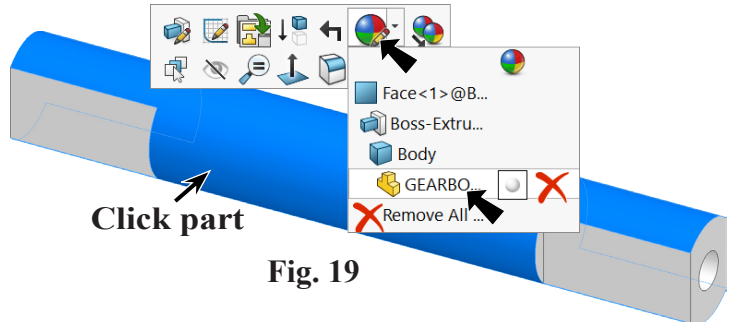

Fig. 19
Step 1. Click the Gearbox to select part, click **Appearances Callout** on the context toolbar and click **Gearbo...**, Fig. 19.